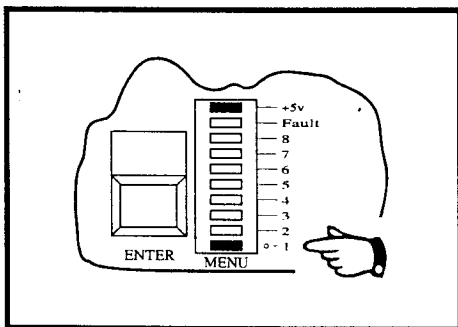

Figure 3-6
- (c) Press the blue **FUNCTION** key. The **Menu** display should cease scrolling and the segment labelled **1** should illuminate. This segment identifies the ZERO menu function. See Figure 3-6.
- (b) Press the blue **FUNCTION** key **ONCE**. The **Menu** display should cease scrolling and the segment labelled **1** should illuminate. This segment identifies the ZERO menu function. See Figure 3-6.
- (h) Press the blue **FUNCTION** key until the segment labelled **1** on the **Menu** display illuminates. This segment identifies the ZERO menu function. See Figure 3-6.